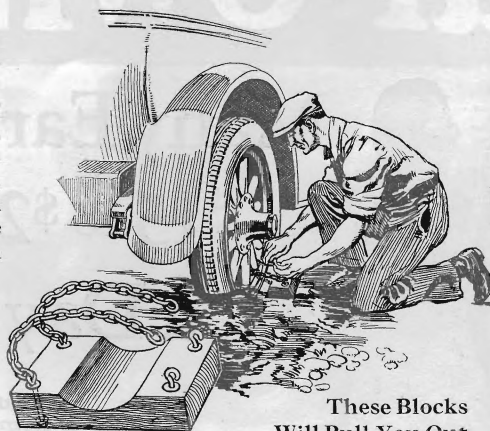

Fig. 1. Attaching wooden blocks with chains to rear wheels to aid in getting car out of a mudhole
**T**WO blocks of wood, some short pieces of chain, and a few eyebolts will supply you with material to build yourself a sure cure for getting stuck in mudholes. As shown in Fig. 1, the wood blocks are cut as large as possible and yet clear the mud guards, and then the eyebolts are fitted at each corner. The chains can be fitted at one end with snap hooks. At each revolution of the rear wheels, the back of the car is raised up about eight inches and moved along about two feet, finally getting the car clear of the mud.
**H**ARRY LINCE, of Dearborn, Mich., wins the \$10 prize this month for the wooden tire blocks, Fig. 1. Each month POPULAR SCIENCE MONTHLY awards \$10 besides space rates for the best idea for motorists. Other published contributions will be paid for at usual rates.